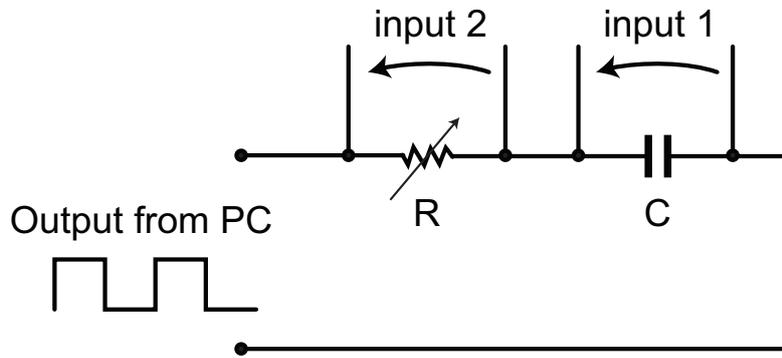

Figure 7: Scheme of the RC circuit.
- Now let's put all of this together. We will generate a square wave of variable frequency and amplitude keeping its baseline at 0 V. We will input this excitation into a series combination of a variable resistor  $R$  and capacitor  $C$ . We will measure both of these voltages in real time and see if we observe the desired characteristics of these components. This printed circuit has been constructed for its ease of use and should be available in the kits we've provided. The circuit diagram is shown in Fig. 7.